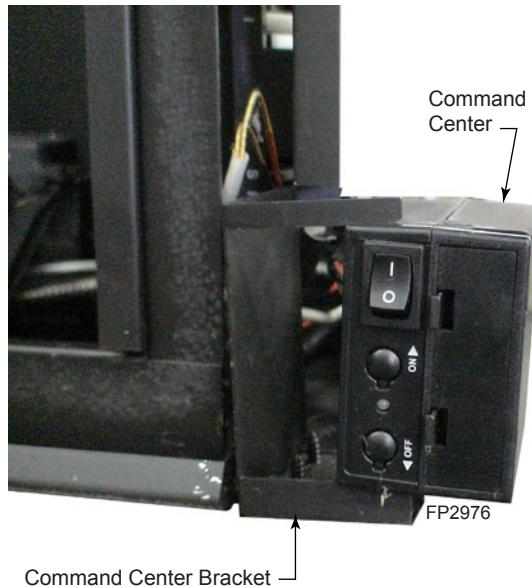

Figure 6
- Remove command center from bracket by sliding out to the right. *Figure 6*